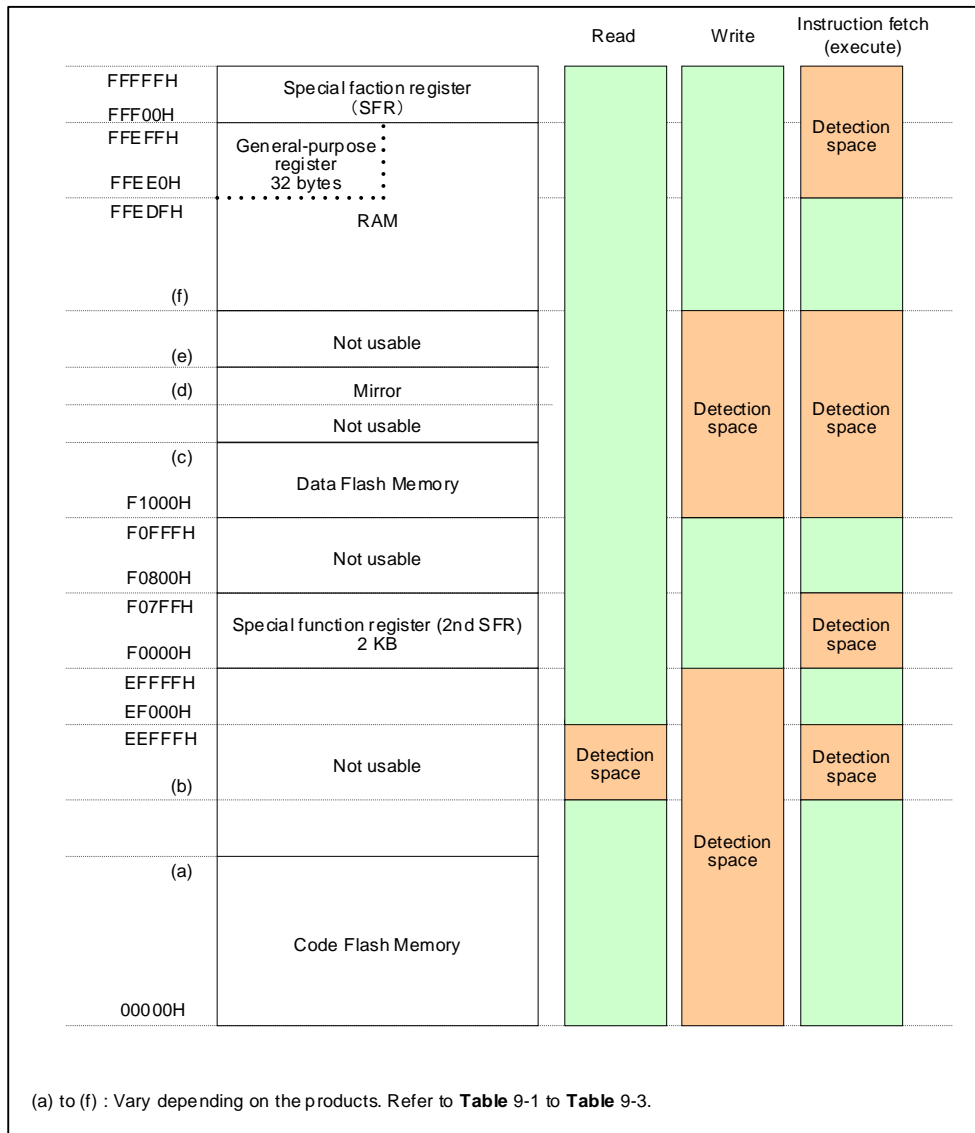

Figure 9-1 Invalid Access Detection Area
The invalid memory access detection function triggers a reset if an Invalid Access Detection space (see **Figure 9-1**) is accessed.
- With a product having a code flash memory whose size is 16KB/32KB/48KB, a value “FFH” will be read if the space [between the start address of the code flash memory (the address “a” in Figure 9-1) and the address 0FFFFH] is invalidly accessed. Also, if an instruction fetch is executed in the same space by an invalid access, a reset is generated due to execution of the invalid instruction.
- With a product having a code flash memory whose size is 96KB, a value “FFH” will be read if the space [between the start address of the code flash memory (an address “a” in Figure 9-1) and the address 1FFFFH] is invalidly accessed. Also, if an instruction fetch is executed in the same space by an invalid access, a reset is generated due to execution of the invalid instruction.